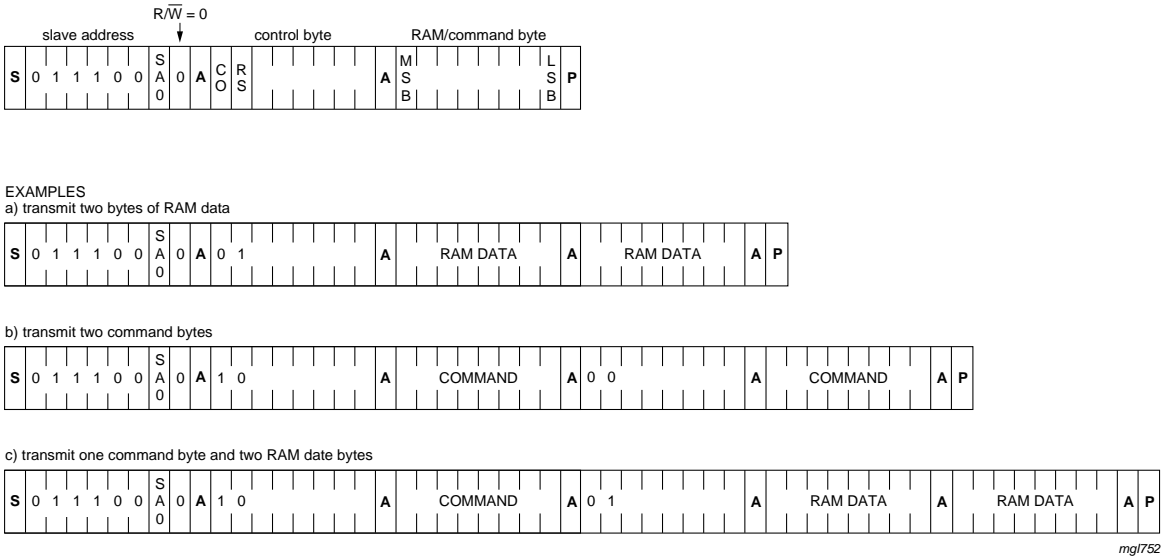

Fig 17. I²C-bus protocol
The I²C-bus protocol is shown in Figure 17. The sequence is initiated with a START condition (S) from the I²C-bus master which is followed by one of the available PCA85133 slave addresses. All PCA85133 with the same SA0 level acknowledge in parallel to the slave address. All PCA85133 with the alternative SA0 level ignore the whole I²C-bus transfer.